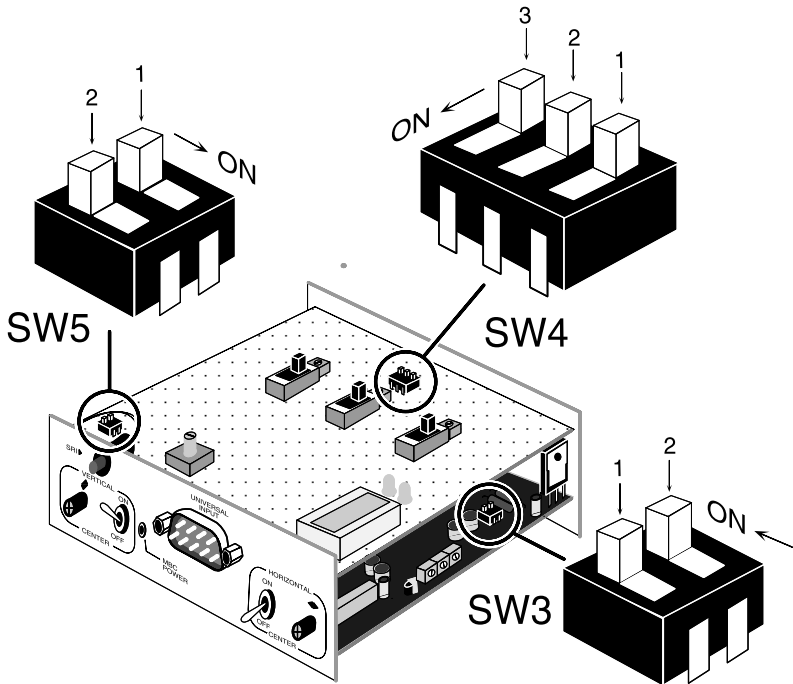

Figure 3
The switches on the DIP switch module used in the RGB 118 and the RGB 118 PLUS are the slide type (see drawing, Figure 3 on facing page). To change the position of the slide switch, a small screw-driver is used to push (slide) the switch to the desired position (enable or disable).
Anti-static, anti-glare or EMI coatings on the face of the CRT may prevent the RGB 118 PLUS SRI from displaying the monitor's scan frequencies properly. Should this occur, an alternate method to obtain a readout is to set the RGB 118 PLUS on top and toward the rear of the monitor as shown in Figures 3 and 4 below. To view the vertical scan frequency using this method, set the RGB 118 PLUS as shown in Figure 3 with the red SRI button toward the rear of the monitor. Press and hold the red SRI button in when the green Vertical (V) LED turns on. To view the horizontal scan frequency, set the RGB 118 PLUS on the monitor as shown in Figure 4. When the red Horizontal (H) LED turns on, press and hold the red SRI button until a readout is obtained.